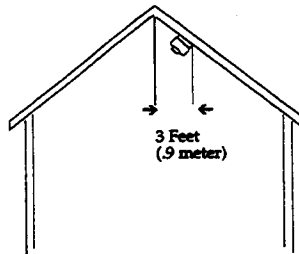

Figure 1. Slope mounting requirements
- mount smoke detectors in rooms with sloped, peaked, or gabled ceilings whenever possible. If unavoidable, mount detectors 3 feet (0.9 meter) measured horizontally from the highest point of the ceiling. Refer to Figure 1.